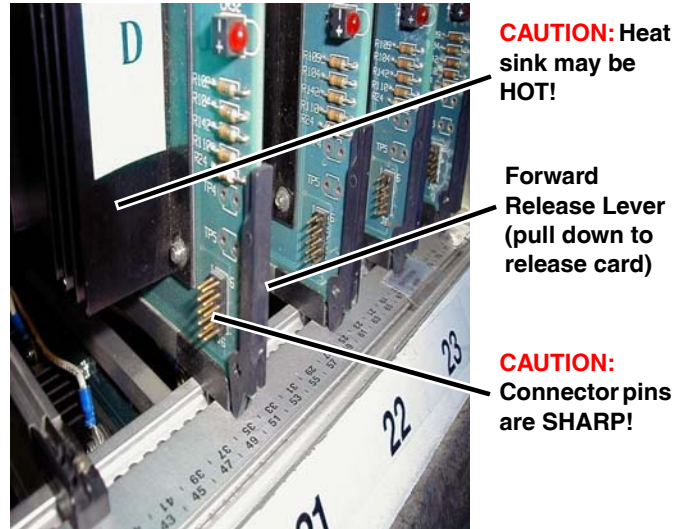

Figure 2-5: Forward Release Lever
CAUTION: The heat sink on recently operated trim cards may be HOT, and the connector pins are SHARP (see Figure 2-5, below). Protect yourself by wearing the required PPE (leather or mechanics gloves inspected to be in good condition).
- c. Locate the forward release lever at the **BOTTOM** front edge of the faulted trim card (see Figure 2-5).
- d. Grab the top of the forward release lever (see Figure 2-5), and pull it toward you. The trim card will move slightly toward you and come loose from its connector in the rear of the chassis.
- e. Return the forward release lever to the “up” position such that it is seated against the card (see Figure 2-5).
- b. Grab the top of the forward release lever (see Figure 2-5 on page 7), and pull it toward you. The trim card will move slightly toward you and come loose from its connector in the rear of the chassis.
- c. Return the forward release lever to the “up” position such that it is seated against the card (see Figure 2-5 on page 7).